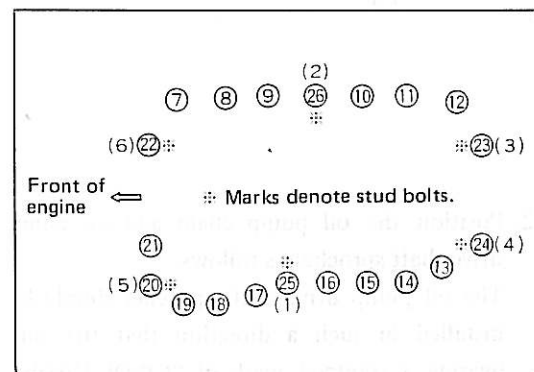

Fig. 6-27 Oil Pan Attaching Bolt Tightening Sequence
- (3) Install the oil pan in place.
(4) First, tighten the stud bolts temporarily in the tightening sequence as indicated in Fig. 6-27.
Then, proceed to tighten the oil pan attaching bolts in the tightening sequence as indicated in Fig. 6-27.
Numerical figures in () in Fig. 6-27 represent the temporal tightening torque for the stud bolts.